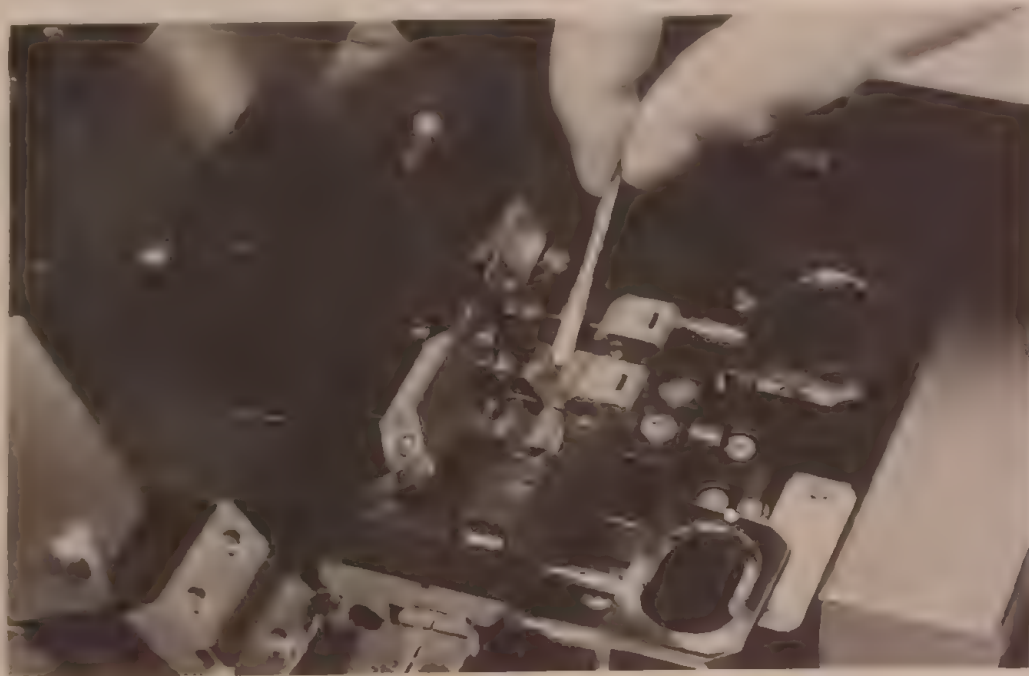
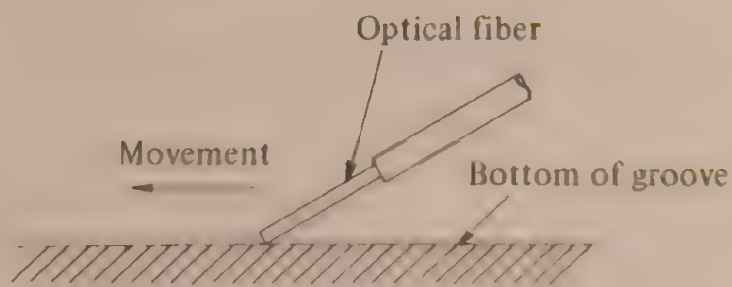

Fig. 29 Cleaning with Cotton Stick
Fig. 30 Cleaning with Optical Fiber
Please make sure that you have turned off the POWER switch (3), since it is dangerous to clean the optical fiber guide unit when the power is on. After opening the clamp (1), wipe the groove with a cotton stick dipped in alcohol (Refer to Fig. 29). Alternatively scour the groove with the end face of the cut optical fiber in the direction shown in Fig. 30. Discharge several times (caution (3) Sect. 5.1) without fail, after cleaning.